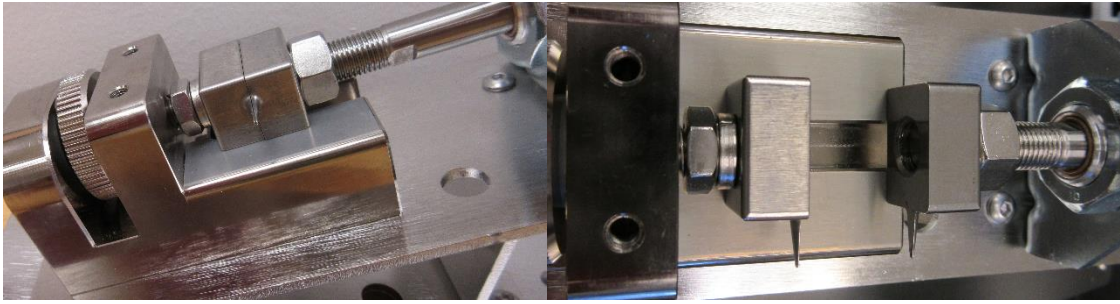

Figure 3.4.1 – Fully extended
- Turn the thumb wheel clockwise until the cylinder shaft is fully extended in the jaw block channel. **Figure 3.4.1**